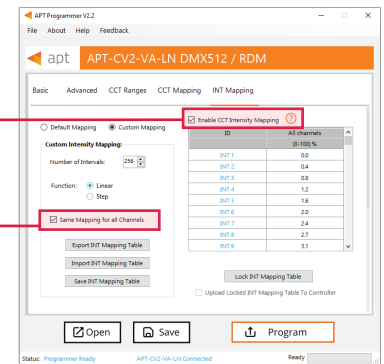

Figure 15a: Same Mapping for All Channels checked
*Note: If Same Mapping for all Channels is checked, then the All Channels column of the table will be used to upload the INT mapping for the intensity of the CCT shown in Figure 15a.*